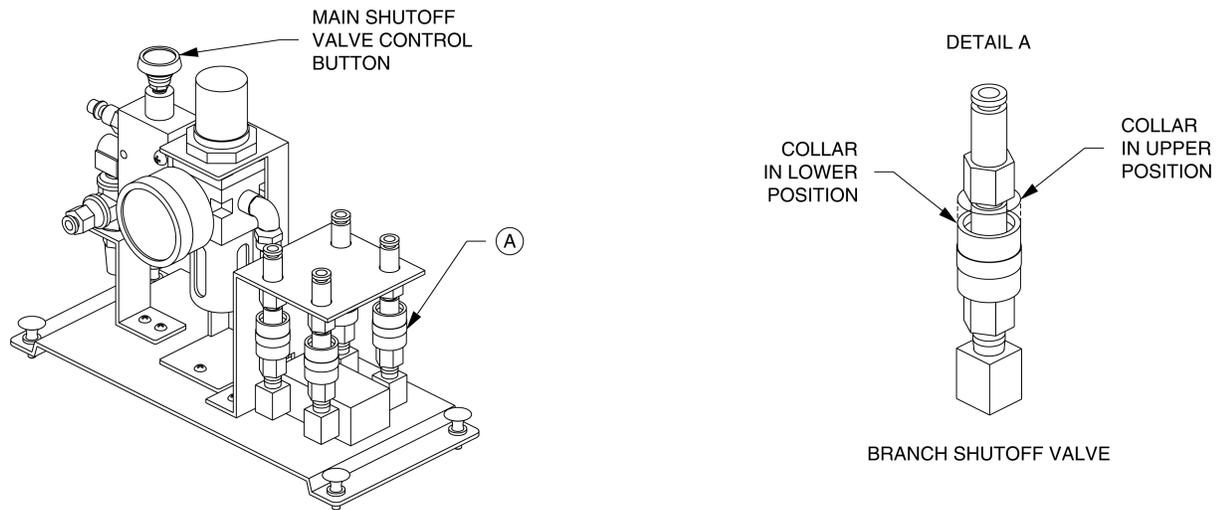

Figure 1-19. Conditioning Unit with Branch Shutoff Valves.
- Close the four branch shutoff valves of the manifold (collar in the lower position). Figure 1-19 shows the Conditioning Unit with shutoff valves.